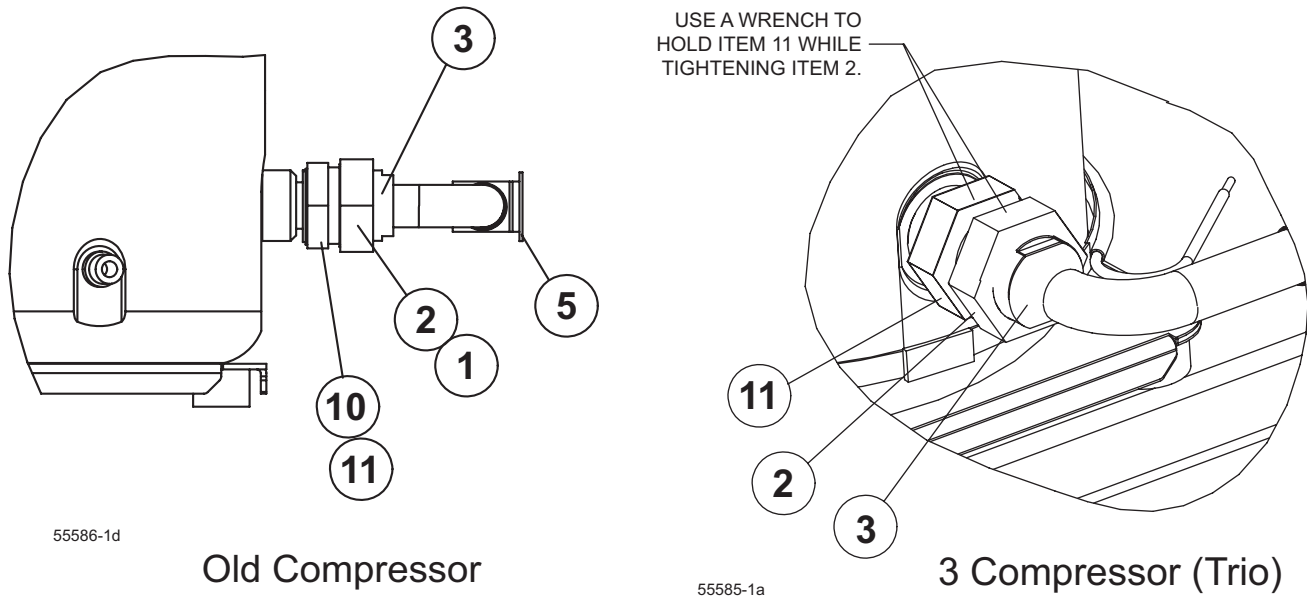

FIGURE 7 – OLD COMPRESSOR ROTOLOCK AND GASKET/NUT/SLEEVE INSTALLATION
10. Install Items 10 (O-ring) and 11 (Rotolock Fitting) into each "old" compressor sight glass threaded fitting. Torque Item 11 into the compressor to 133-177 ft-lbs as shown in FIGURE 7. Install Items 1 (Gasket), 2 (Compressor Nut), and 3 (Sleeve) in each Rotolock fitting. Loosely thread the connection together. **DO NOT tighten at this time.** After the piping is brazed in step 11, final torque item 2 against item 11 to 125-133 ft-lbs as shown in FIGURE 7. Be sure to hold Item 11 with a wrench while tightening Item 2 as shown in FIGURE 7.